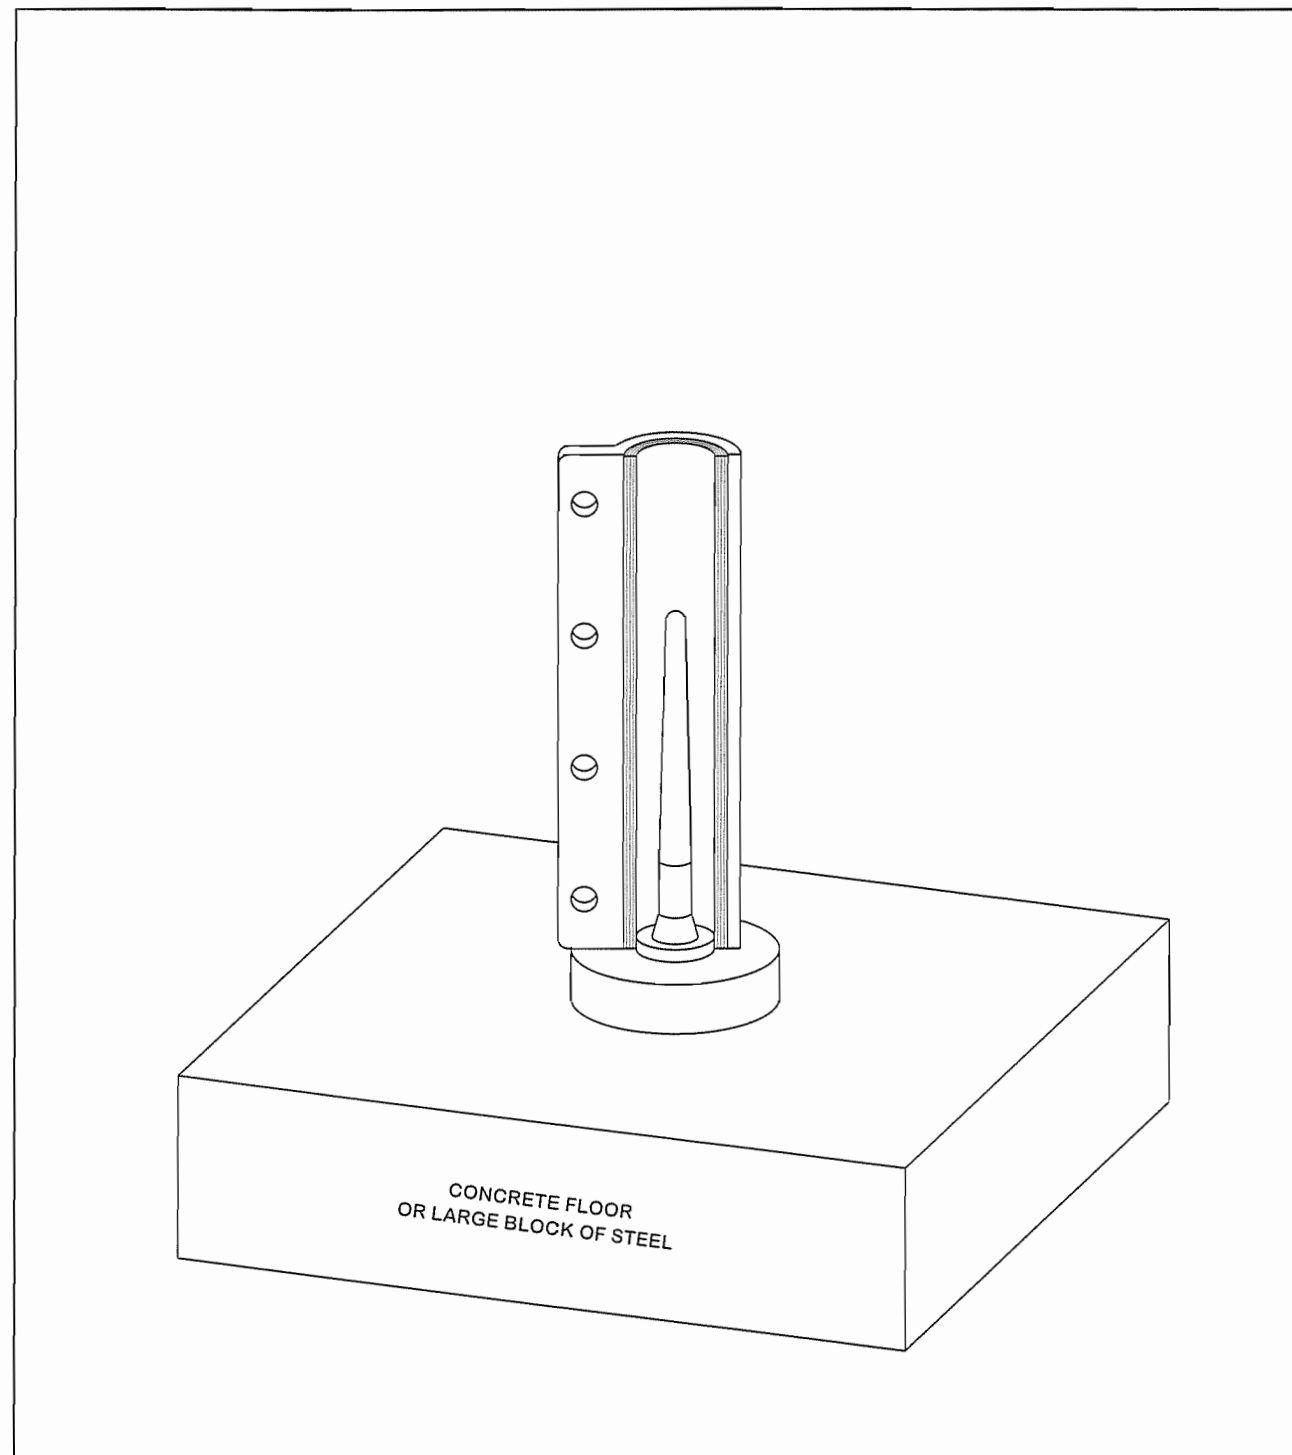

Figure 10-1. The motor casing (inside the casing retainer) is placed over the nozzle mold - core spindle assembly.
2. Place the nozzle mold and the core spindle on a concrete floor or a heavy block of steel. Clamp the casing into the casing retainer, and place it over the nozzle mold-core spindle assembly (**Figure 10-1**).